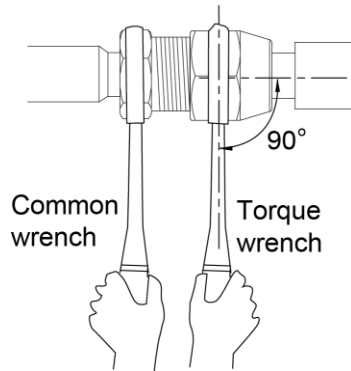

Fig. 14
- (3) Use torque wrench to twist on the flared nut tightly until the wrench gives out a click sound. (Hold the handle of wrench and make it at right angle to the pipe. as in Fig.14)
- (4) Use sponge to wrap the un-insulated connection pipe and joint. Then tie the sponge tightly